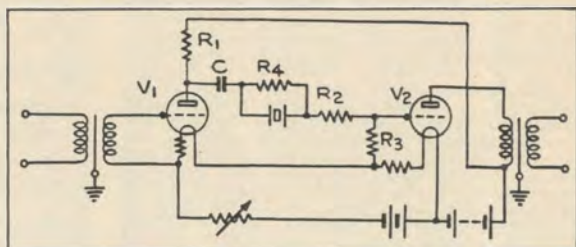

Figure 7
resistance between the stages of a 2 valve resistance-coupled amplifier as shown in Figure 7. The resistances R_1 , R_2 , and R_3 , together with the internal impedance of valve V_1 , are chosen to give a circuit of suitable impedance.
Curve (1) was taken with the crystal alone, i.e., as shown in Figure 7.